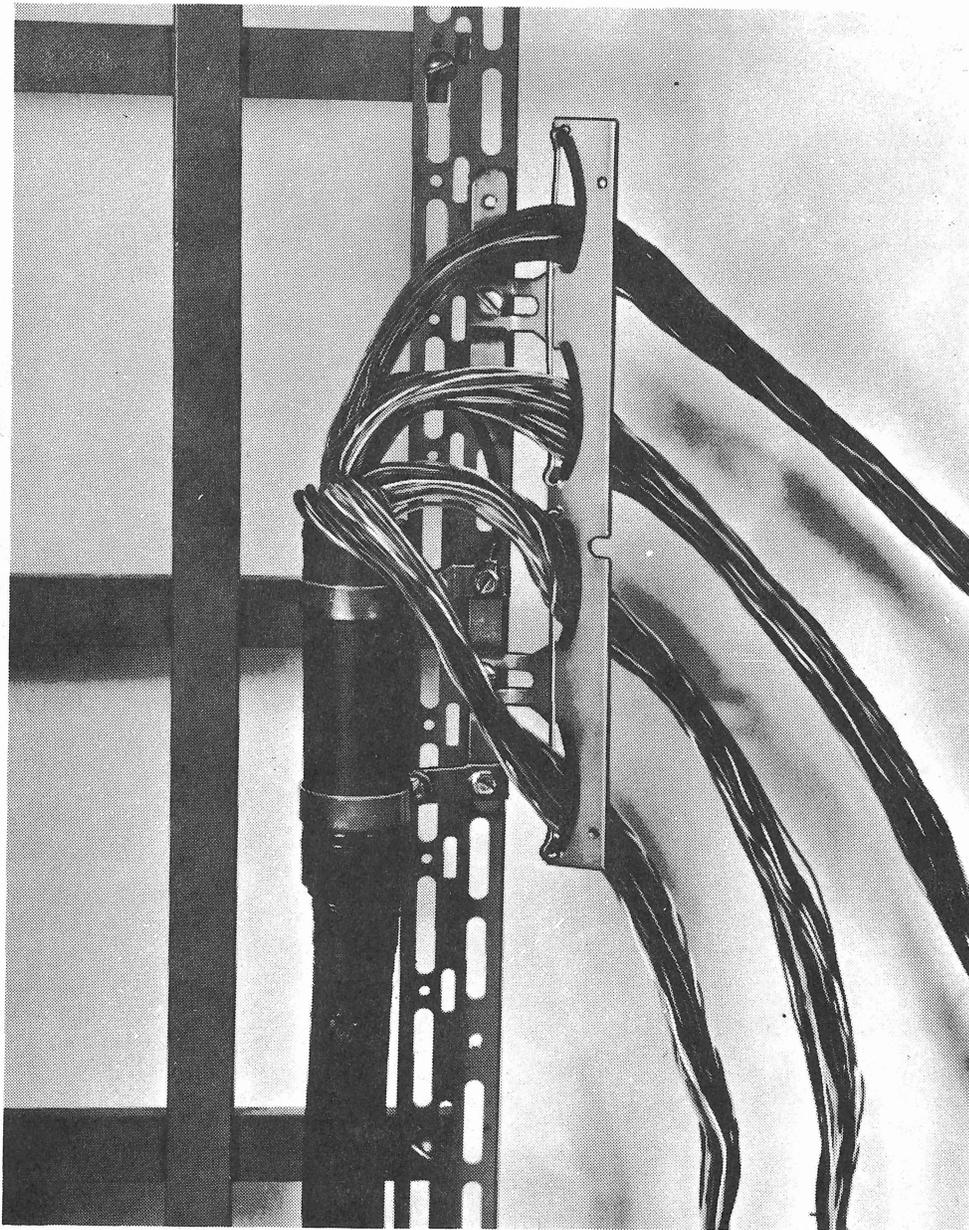

Figure 22. Oblique Angle Mounting Bar Installation
- g. Mount oblique angle mounting bracket to Universal Vertical Adapter Bar using 1/4-20 screws. Mount the oblique position (see figure 22).
- h. Identify and separate the four 25-pair binder groups of the cable stub and feed through the oblique angle mounting bracket fanning strip holes (see figure 22).